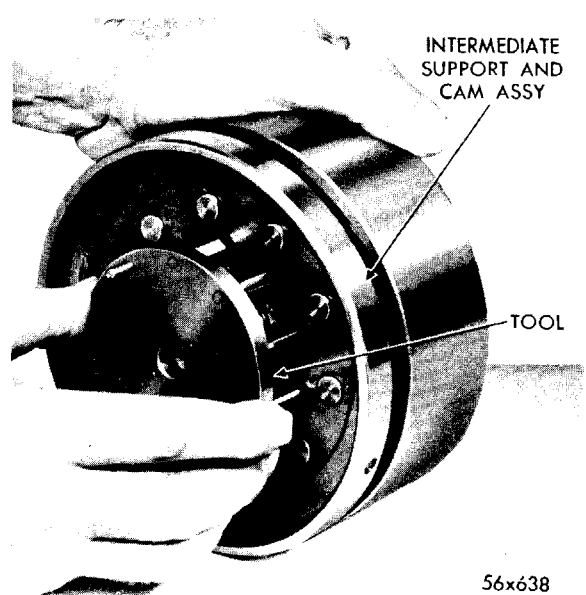
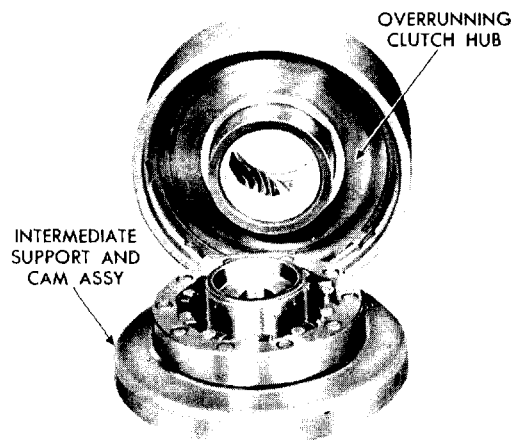

Fig. 67—Installation of Tool C-3527 in Intermediate Support and Cam Assembly
Fig. 68—Removal and Installation of Intermediate Support and Cam Assembly from Overrunning Clutch
(4) Install gauge, Tool C-3527, in intermediate support and cam assembly, as shown in Figure 67. Remove intermediate support and cam assembly from overrunning clutch hub, Figure 68.
(5) Using a screw driver, remove snap ring (D) from low and reverse band drum assembly (G).
(6) Remove the low and reverse planet pinion carrier assembly (E) from reverse band drum.
(7) Remove overrunning clutch hub assembly from